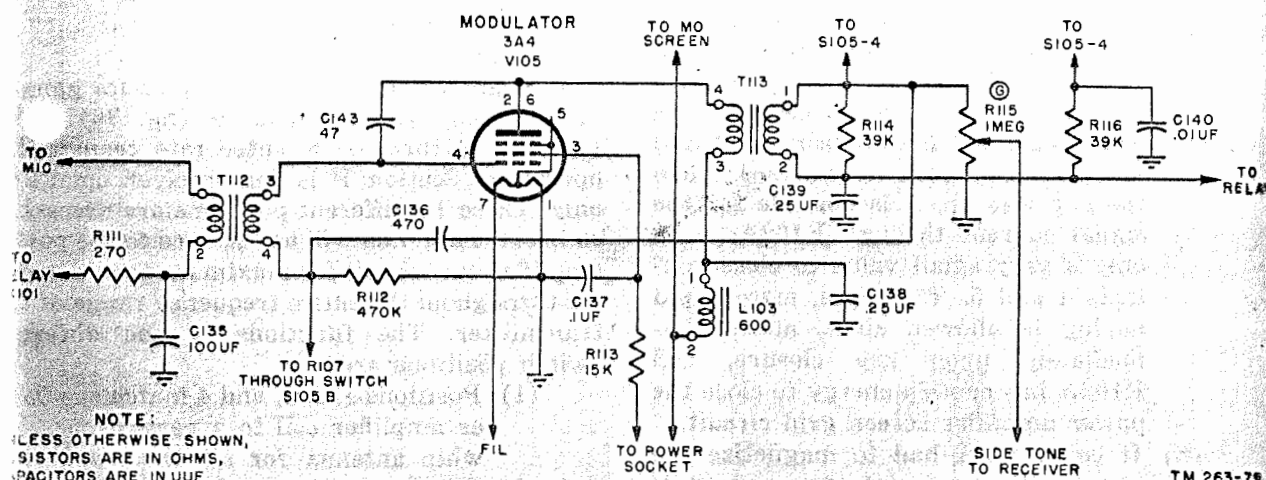

Figure 78. Modulator stage V105, simplified schematic.
7. Modulator Stage V105, Tube Type 3A4 (fig. 78)